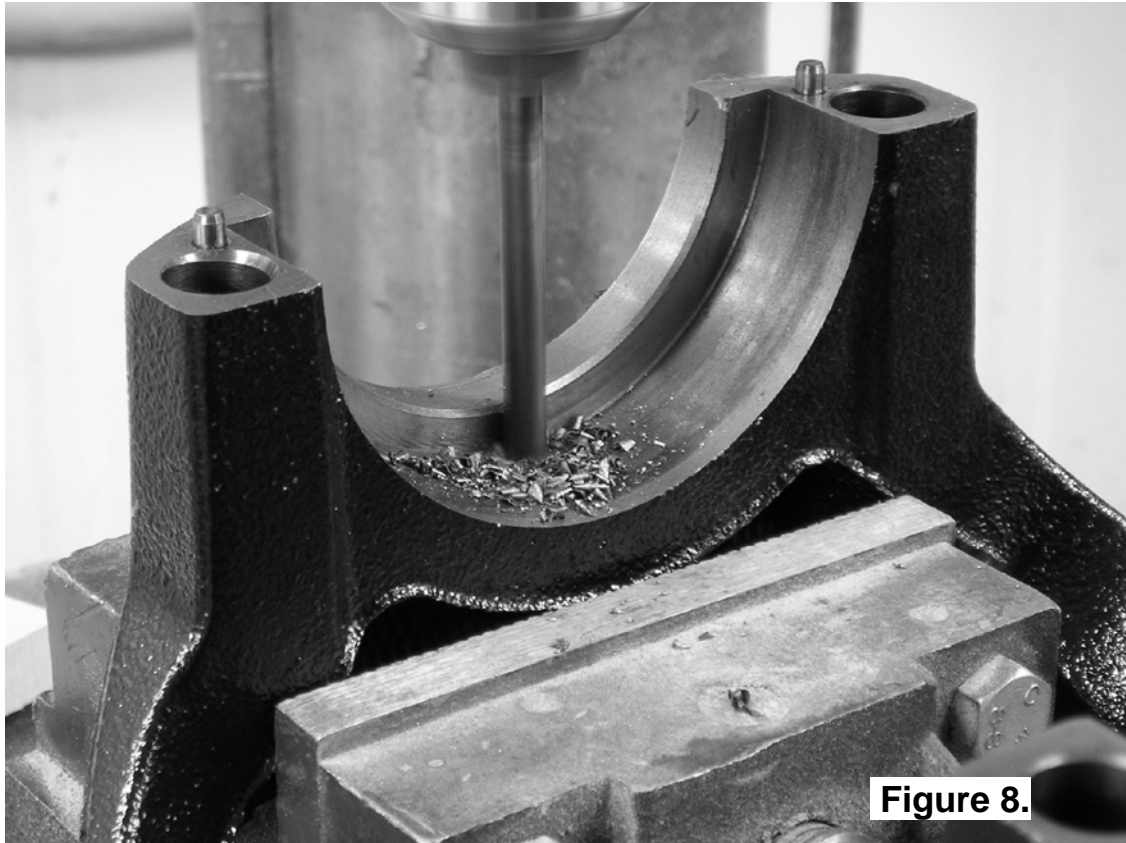

Figure 8.
- Using a pedestal drill, drill a 6mm [$\frac{1}{4}$ "] hole through the bearing cap, in the position shown, so that the drill is against the edge of the bearing stop. (Fig.8.)